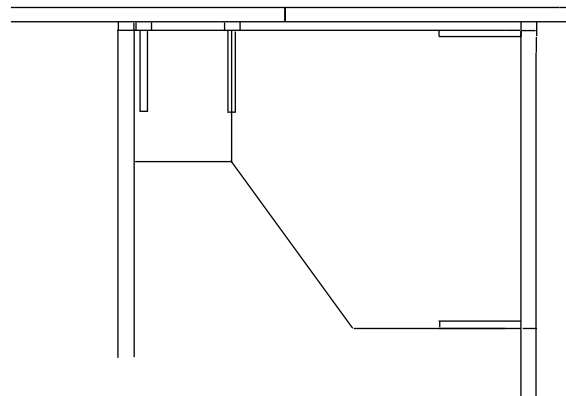

Figure 26
2. Corner worksurfaces can be attached to the spine wall using off-module connectors and then connected directly to the perpendicular wing wall using cantilever brackets. **Figure 26.**